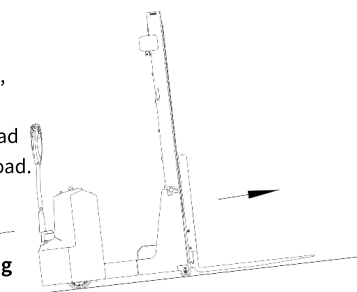

Figure 12: Cargo facing upwards
- ⚠ Driving on an incline is permitted only when the cargo is facing upwards. As shown in Figure 12. Do not drive on an incline at speeds exceeding the specified technical parameters. Please drive at a limited speed when the forks are raised to the lifting point (>300mm).**